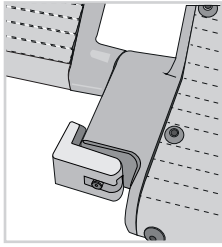

Figure 4a
2. Open the right and left blocking device (Figure 4a,b,c,d).